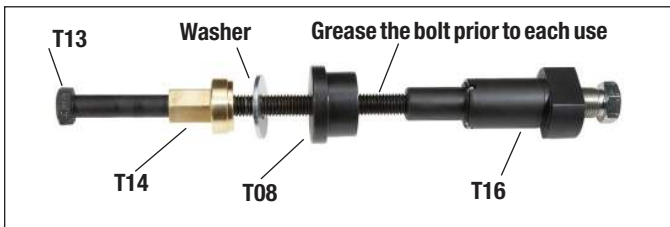

Figure 77 – Long Guide Pin Bushing Installation and Dimpling Tool
5.6.19 Place the washer and thread the brass nut (T14) on to the bolt (T13) followed by the flange (T08). See Figure 77.